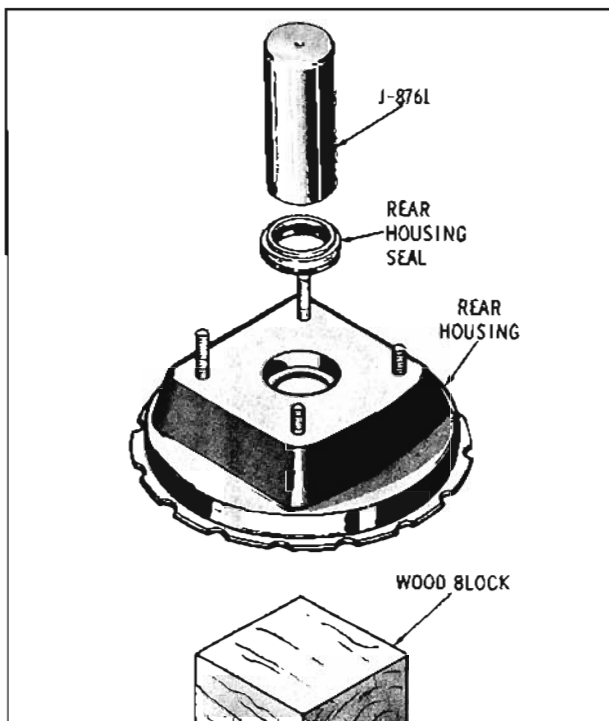

Fig. 11-49 Installing Rear Housing Seal
1. Coat a new rear housing seal with lubricant and install with Tool J-8761. (Fig. 11-49)